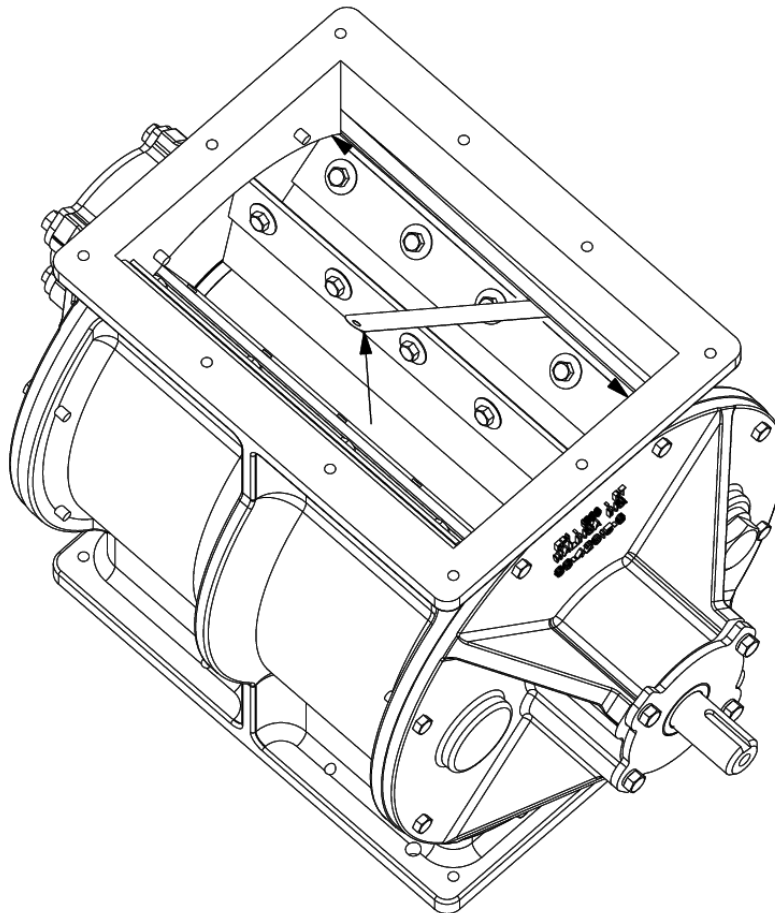

Figure 7-18: Inlet/top tip clearance
5. Use a feeler gauge to check the clearance between the tip and casing along the blade's entire length. Measure the clearance with reference to the casing edge opposite to the wiper blade, as shown in **Figure 7-18** (the casing edge on the side of the wiper blade experiences greater levels of normal operational wear, meaning measurements taken in reference to this edge may result in clearances lower than the minimum allowable clearance, resulting in scraping or damage between the tips and casing). Reference **Table 7-2** for tip clearance requirements. Rotate the rotor by hand and repeat the clearance measurement for each tip.